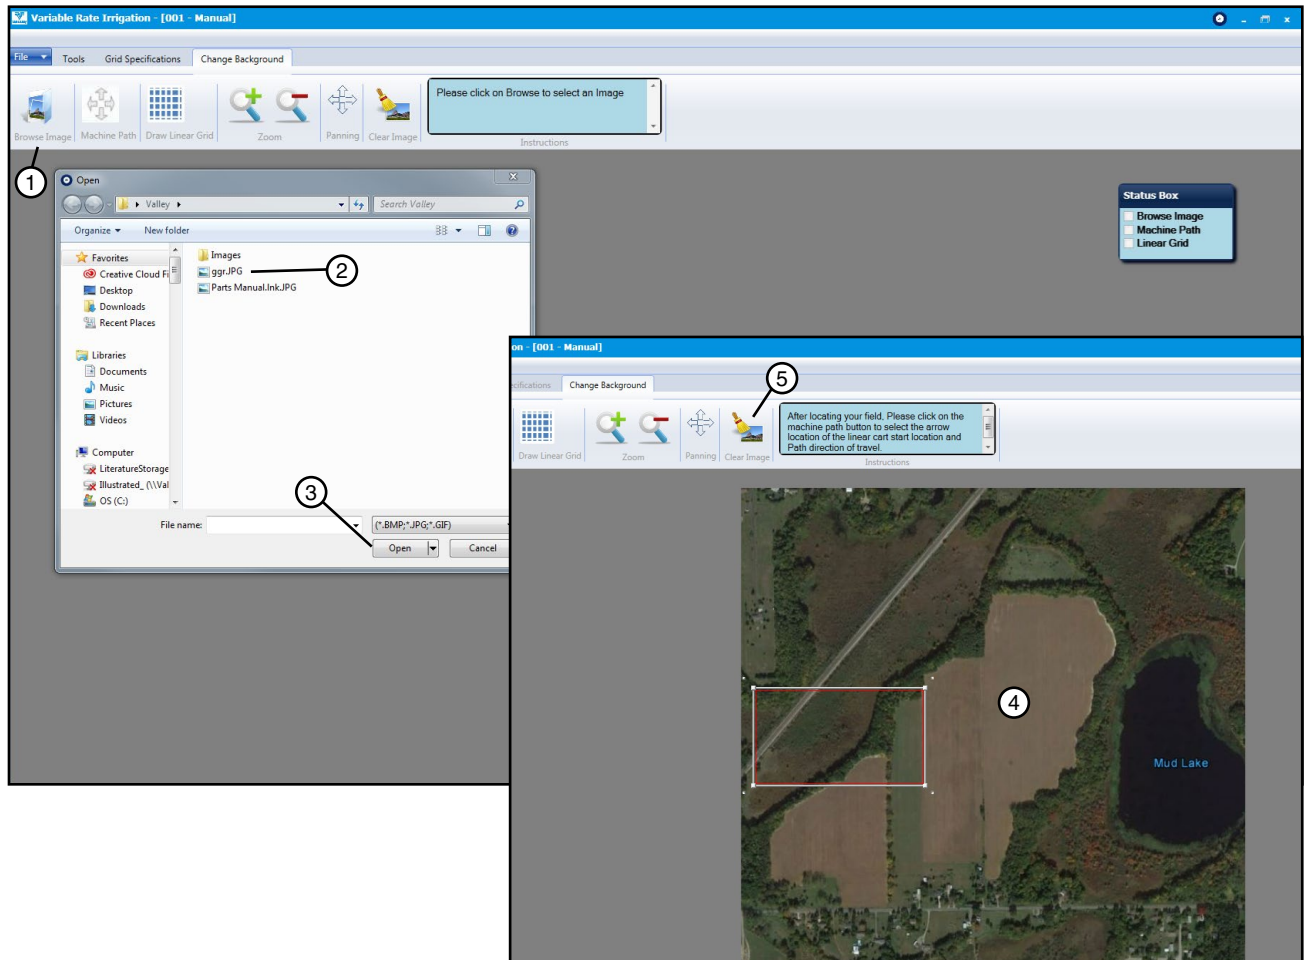

Figure 13-1 1. Browse Image button
2. Click the **Browse Image** button on the Tools screen, select the image of the field for which the prescription is being created, and click **Open**. See Figure 13-1.